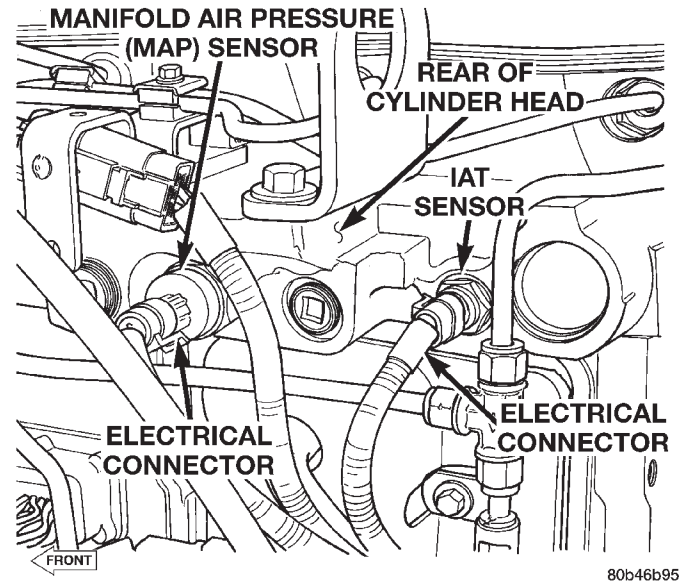

Fig. 37 MAP Sensor Location
The MAP sensor is located in the left/rear side of the intake manifold (Fig. 37).
- (1) Disconnect electrical connector from MAP sensor (Fig. 37).